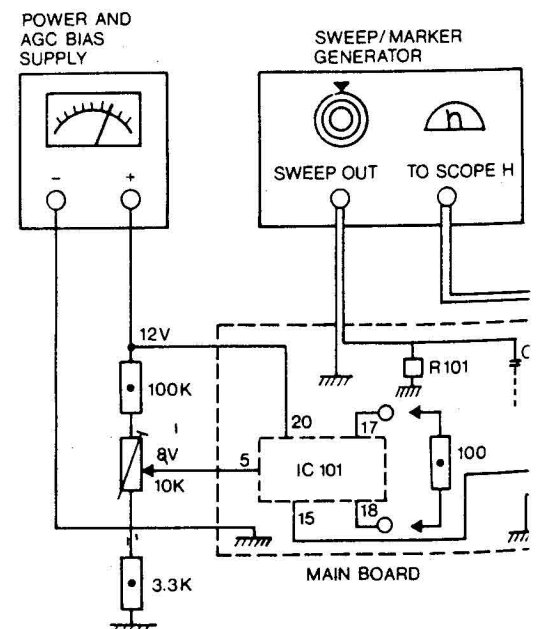

Fig.1 Picture I-F Sweep Alignment
2. Supply 12V DC to pin 20 of IC101 and bias pin 5 of figure 1.